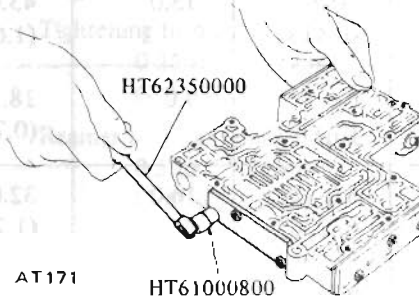

Fig. AT-104 Removing side plate
4. Remove side plate. Take out "1st-2nd" shift valve, "2nd-3rd" shift valve, pressure modifier valve and three valve springs. See Figure AT-104.